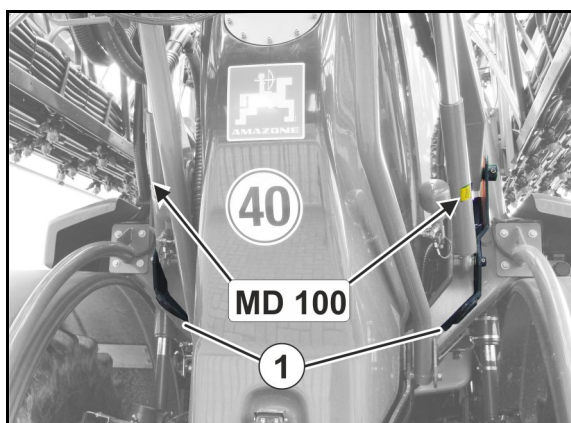

Fig. 5
- 2 Rear lashing points (Fig. 5/1)